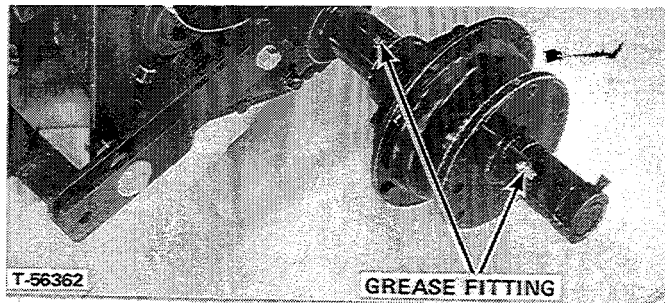

FIGURE 13
- 2 fittings on the right hand rear axle (Figure 13)